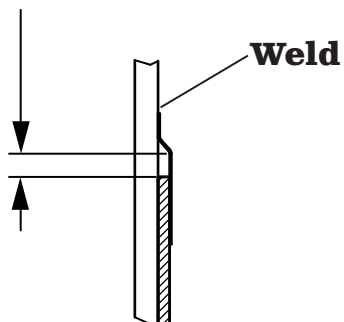

Figure 12
- 2) See **Figures 12 & 13**. Weld the leading edge protector to the sidewall of the trailer/body. For proper placement use diagrams below.